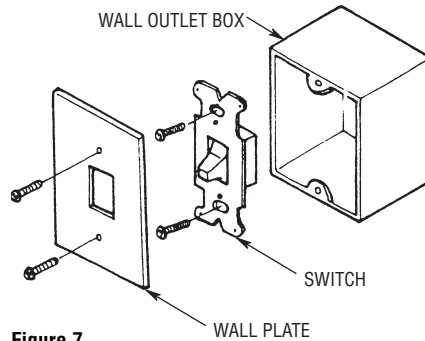

Figure 7
- 2. Disconnect wire from existing fan wall switch (Figure 7).
- 3. Slide the fan control to the OFF position (0).